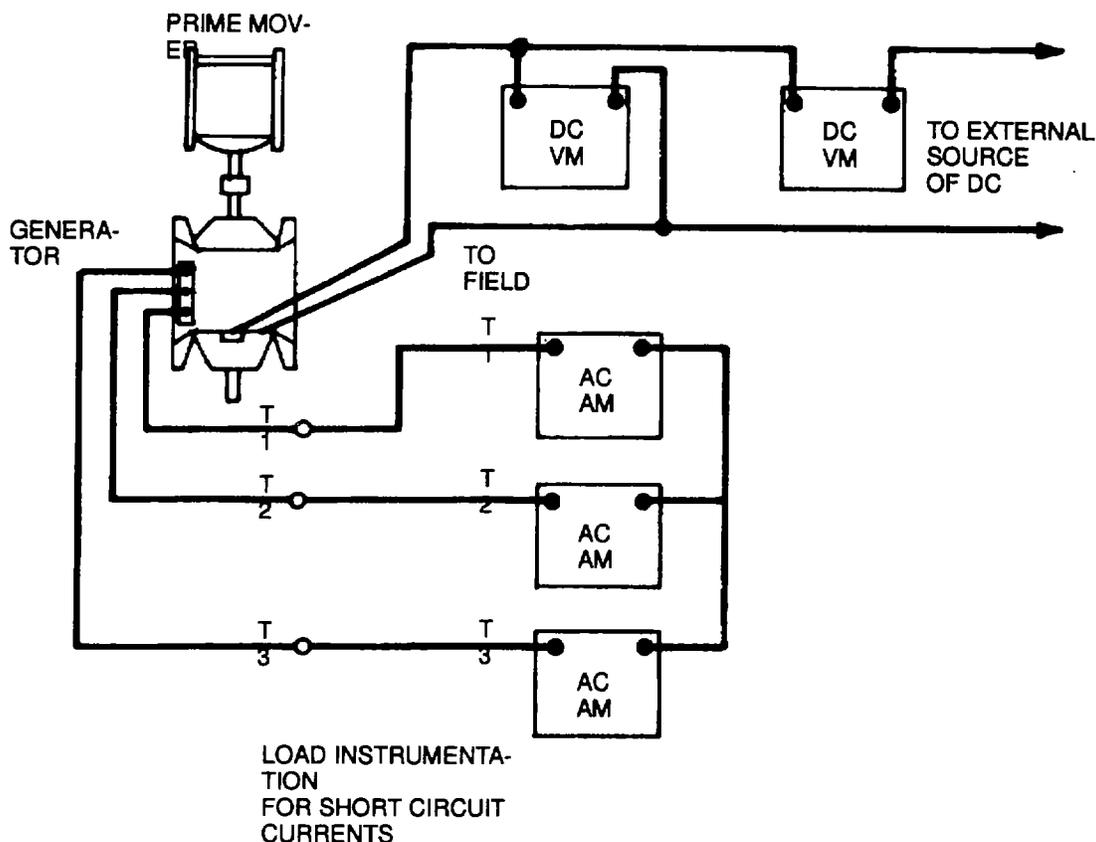

Figure 12-5. Load Instrumentation (Sheet 2 of 2)
- (1) Connect the load instrumentation in accordance with Figure 12-5.
- (2) Level the generator set.
- (3) Fill the generator set fuel tank using the fuel transfer pump.
- (4) Disconnect the auxiliary fuel lines from the external fuel tank
- (5) Start and operate the generator set at rated load, voltage, and frequency. Simultaneously start the stopwatch.
- (6) Note the exact time the LOW FUEL ENG FAULT indicator lights up. This should indicate that there is enough fuel in the fuel tank to operate the set at rated load and frequency for 35 minutes.
- (7) Continue operating the set for approximately 35 minutes until the low fuel level switch FL3 shuts down the generator set. Record the time when FL3 actuates and shuts down the set.
- (8) If FL3 does not actuate within 35 minutes after the LOW FUEL ENGINE fault indicator lights up, FL3 is faulty or the timer on time delay (low fuel level shutdown) relay K23 is set too high. Shut down the generator set immediately and reset the timer, or replace FL3.
- b. Apparatus. Instrumentation for measuring load conditions shall be as illustrated in Figure 12-5. In addition, a noninductive shunt, a short-circuiting switch, a galvanometer matching network an oscillograph, and galvanometers having a flat frequency response (flat within plus or minus 5 percent) from DC to 3,000 Hz will be required.
- (1) Preparation for Test.
- (a) Connect the load and instrumentation in accordance with Figure 12-5 and Figure 12-6, for one voltage and frequency.
- (2) Test.
- b. Apparatus. Instrumentation for measuring load conditions and field voltage and current shall be as illustrated in Figure 12-5. In addition, a stopwatch or an oscillograph with galvanometer matching network and a noninductive shunt, and galvanometers having a flat frequency respond (within plus or minus 5 percent) from DC to 3,000 Hz are required.
- (1) Preparation for test. Connect the load and field instrumentation in accordance with Figure 12-3 and Figure 12-5, for one voltage and frequency.